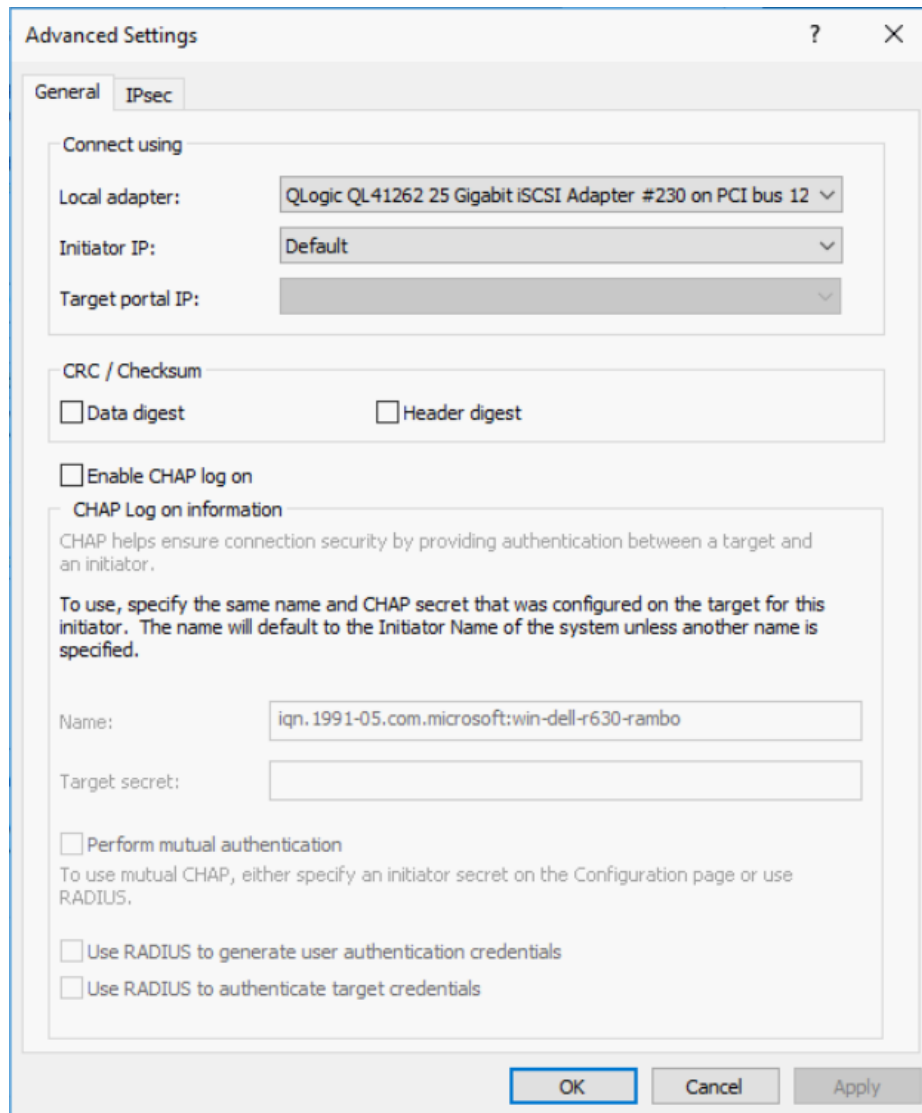

Figure 9-21. Selecting the Initiator IP Address
6. In the Advanced Settings dialog box (Figure 9-21), complete the following under **Connect using**: